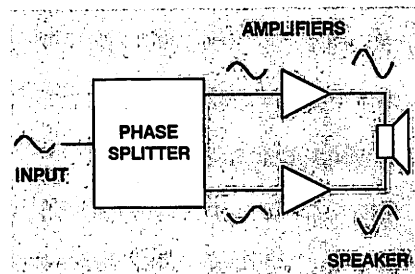

FIG. 3—BRIDGED AMPLIFIERS DRIVE opposite sides of a speaker with opposite-polarity signals, giving double voltage and quadruple power.
**A** Figure 3 shows the principle of bridging. It's a way of getting louder sound when only a limited supply voltage is available; for example, computer sound cards and car-stereo systems often use bridged amplifiers. The amplifiers must have transformerless outputs, and you can recognize the bridge circuit because neither side of the speaker is grounded.